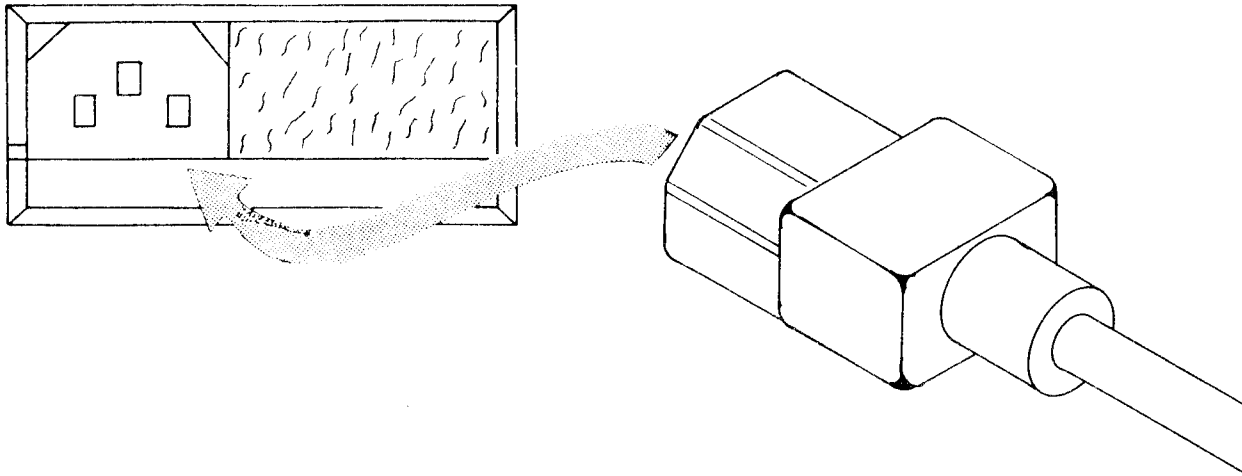

Figure 75. Plug Power Cord into 610B Receptacle
- c. Plug the female connector on the AC power cord into the AC power receptacle on the rear panel of the 610B (see Figure 75).